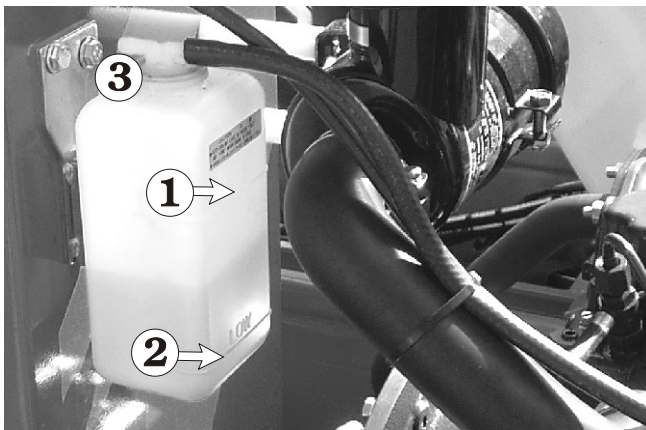

Figure 7.7 - Engine Coolant Level
The Kubota engine is liquid cooled. The coolant should be between the FULL level ① and the LOW level ② (see Figure 7.7).
Turn the engine OFF at the ground control box box KEY SWITCH. Remove the cap ③ (see Figure 7.7) from the coolant reservoir. Add coolant and replace cap.